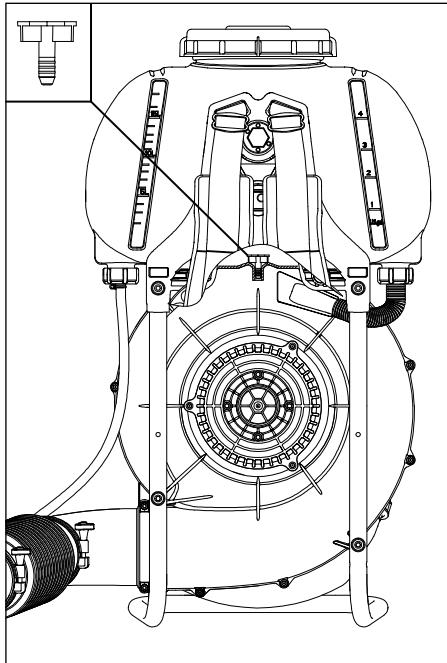

Figure 3 Remove the grid
- Unscrew the red liquids tank cap; remove the white plastic cap form the bottom of the tank, at the center, as shown in the box at the top left of Figure 3.